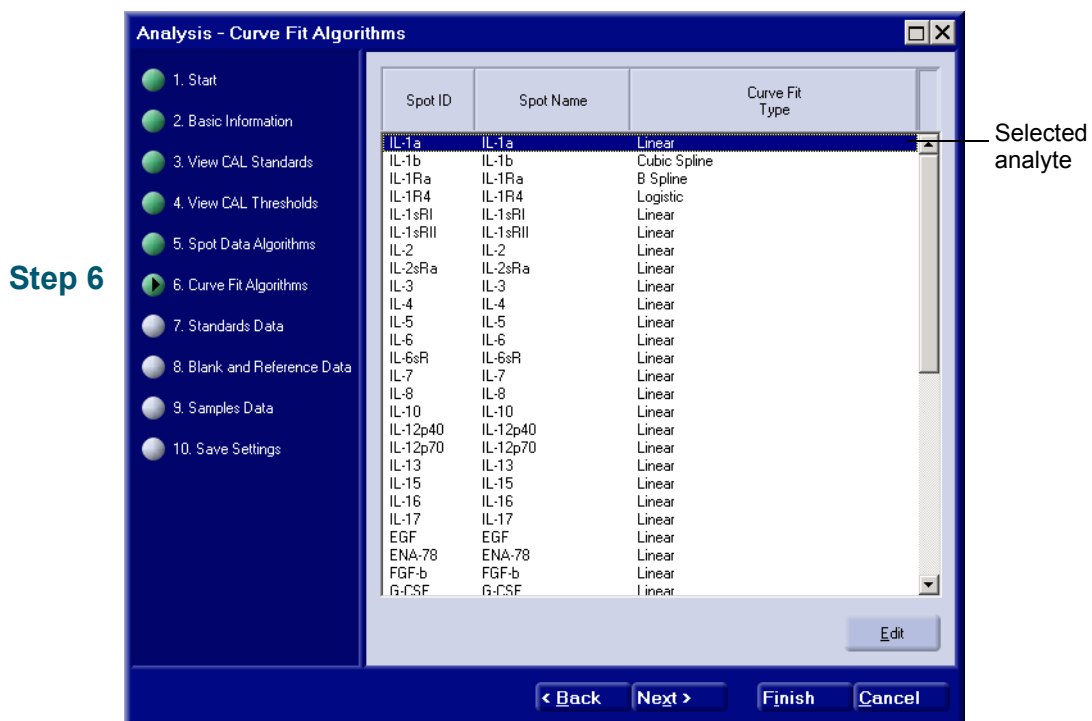

Figure 2-9 Analysis - Curve Fit Algorithms Window
1. In the *Analysis - Curve Fit Algorithms* window, select the first analyte, **IL-1a**, by clicking it with the mouse (Figure 2-9).